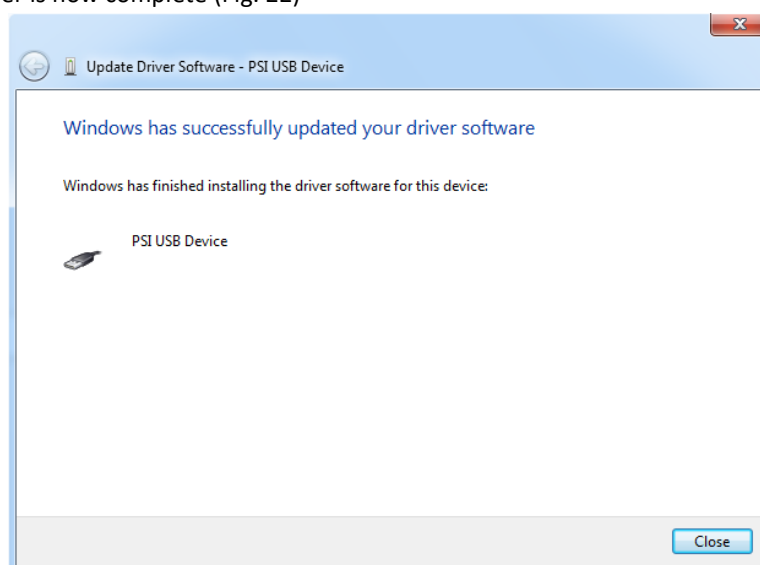

Fig. 22 Complete installation.
- Installation of the driver is now complete (Fig. 22)